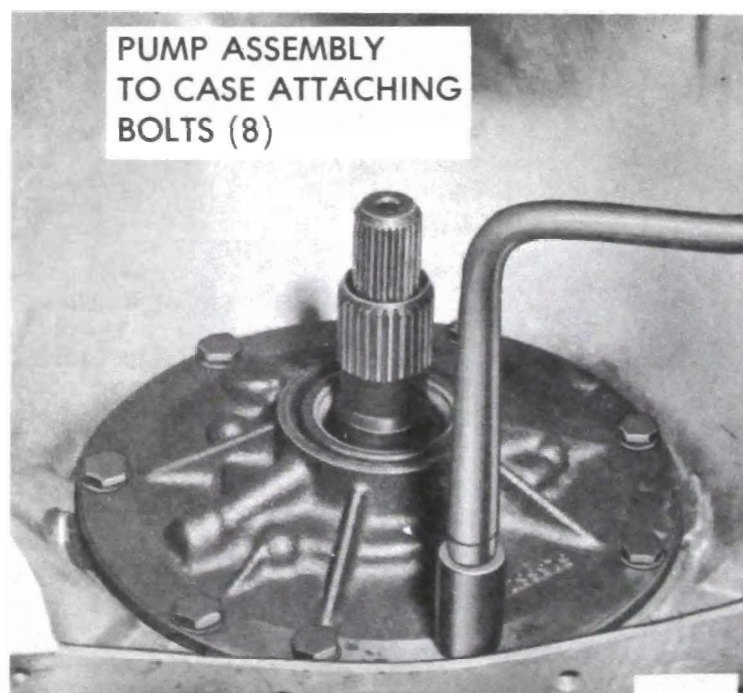

Figure 75-90
1. Remove eight (8) pump attaching bolts with washer type seals. Discard washer type seals. See Figure 75-90.